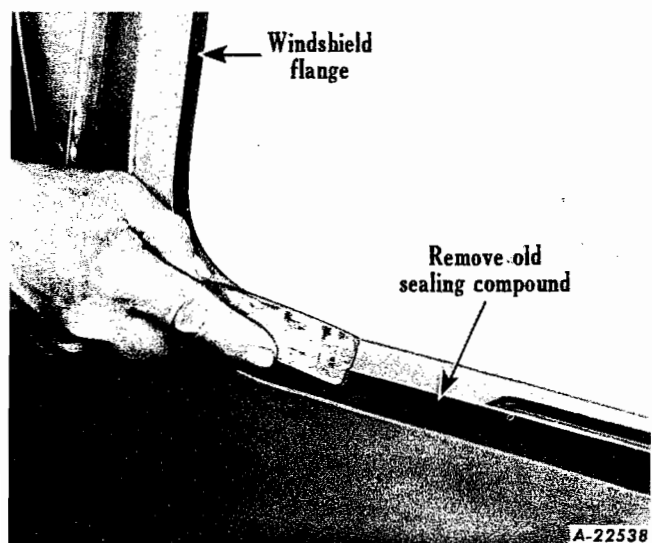

Fig. 21
1. A rubber sealing compound may have been used when the windshield was installed. This sealing compound will have hardened on the flange of the windshield opening in the cab and should be scraped or cleaned to assure a tight seal upon installation of a new weather strip. Scrape or clean all old sealing compound as shown in Fig. 21.